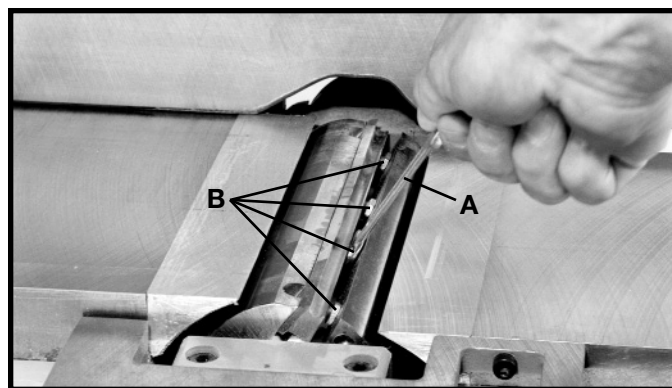

Fig. 49
2. Using wrench (A) Fig. 49, slightly loosen the four locking screws (B) in each knife slot by turning the screws (B) clockwise. Loosen screws (B) Fig. 49, further and remove knife and knife locking bar.
7. Push the knife down as far as possible and turn each screw (B) Fig. 49, counterclockwise just enough to hold the knife in position. Replace the remaining two knives in the same manner.
13. Rotate the cutterhead by hand until the knife is at its highest point at each end of the cutterhead. To raise the knife, use wrench (E) Fig. 53, and turn raising screw clockwise until the knife just touches the straight edge (J) on each end and center of the cutterhead when the knife is at its highest point. When you are certain the knife is adjusted properly, tighten the four locking screws (B) Fig. 49, by turning them counterclockwise.